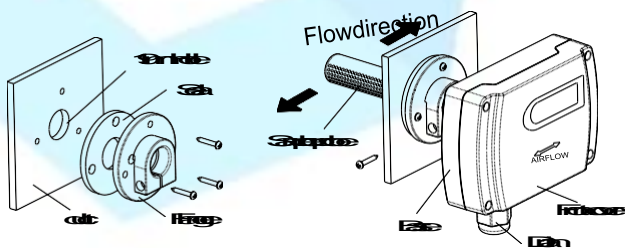

Fig.2
1. Install via the flange as Fig.2. Drill a  $\phi 19\text{mm}$  hole on the duct, install the seal ring and the flange on, then insert the probe into, screw to lock the whole enclosure on the flange.